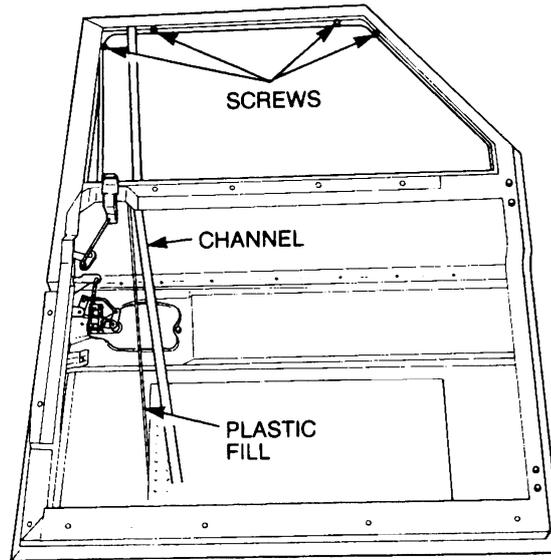

Figure 219 Window Channel Removal
- z. Remove the recessed screws securing the window channels (Figure 219).